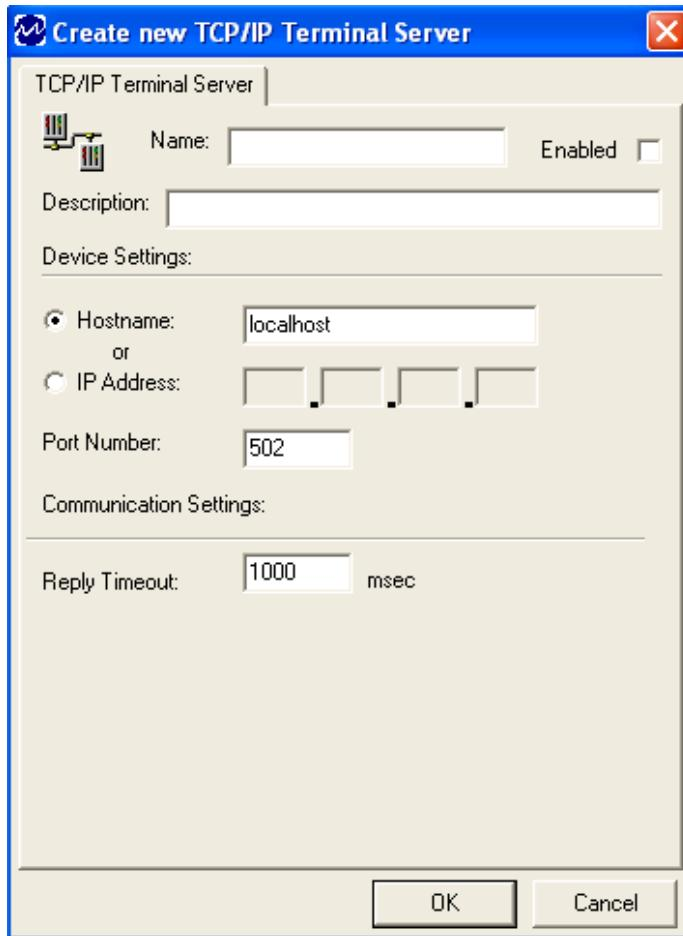

Figure 11 - Create New TCP/IP Terminal Server Window
The **Create New** window (Figure 11) displays the settings available for a connection to a TCP/IP Terminal Service Device.
5. The **Create New** window appears (Figure 11).